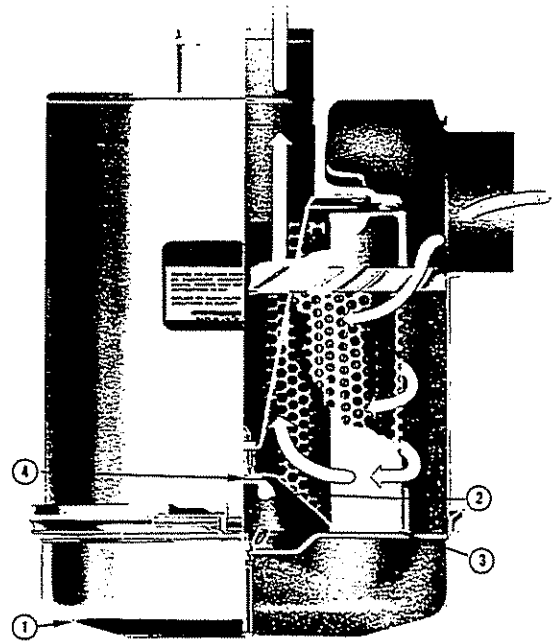
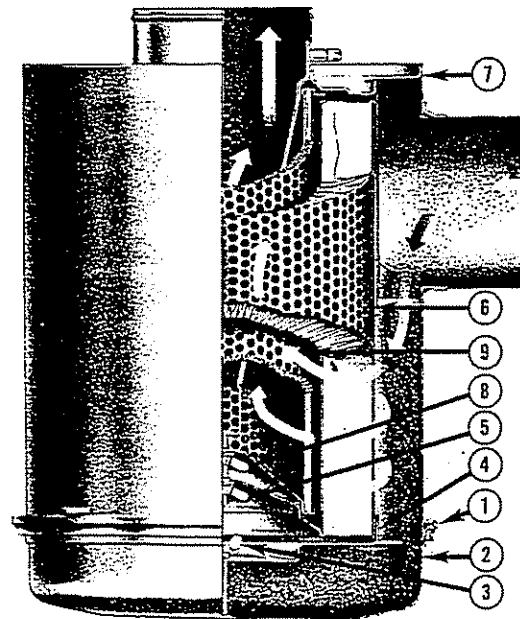

Fig. 2-11, (OM1029L). Air cleaner—heavy duty
Fig. 2-12, (OM1030L). Air cleaner—heavy duty dual element
1. Loosen the wing bolt, remove the band securing the dust pan (1, Fig. 2-11), (2, Fig. 2-12).
2. Loosen the wing nut (2, Fig. 2-11 and 3, Fig. 2-12), remove the dust shield (3, Fig. 2-11), (4, Fig. 2-11), from the dust pan (1, Fig. 2-11), (2, Fig. 2-12). Clean the dust pan and shield.
3. Remove the wing nut (2, Fig. 2-11), (5, Fig. 2-12) securing the air cleaner primary element (6, Fig. 2-12) in the air cleaner housing, inspect the rubber sealing washer on the wing nut (4, Fig. 2-11), (5, Fig. 2-12).
- a. Check the air restriction indicator. If the air restriction is excessive, disassemble the air cleaner, remove the wing nut (8, Fig. 2-12), and replace the safety element (9).